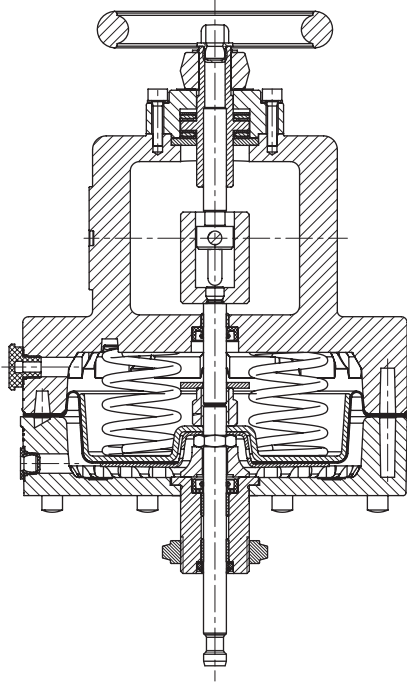

Fig. 12: Type 3271-5, "stem extends" fail-safe action, with additional handwheel
- **Type 3271-5** · 120 cm² actuator area, die-cast aluminum housing (Fig. 4), optionally with additional handwheel (Fig. 12)